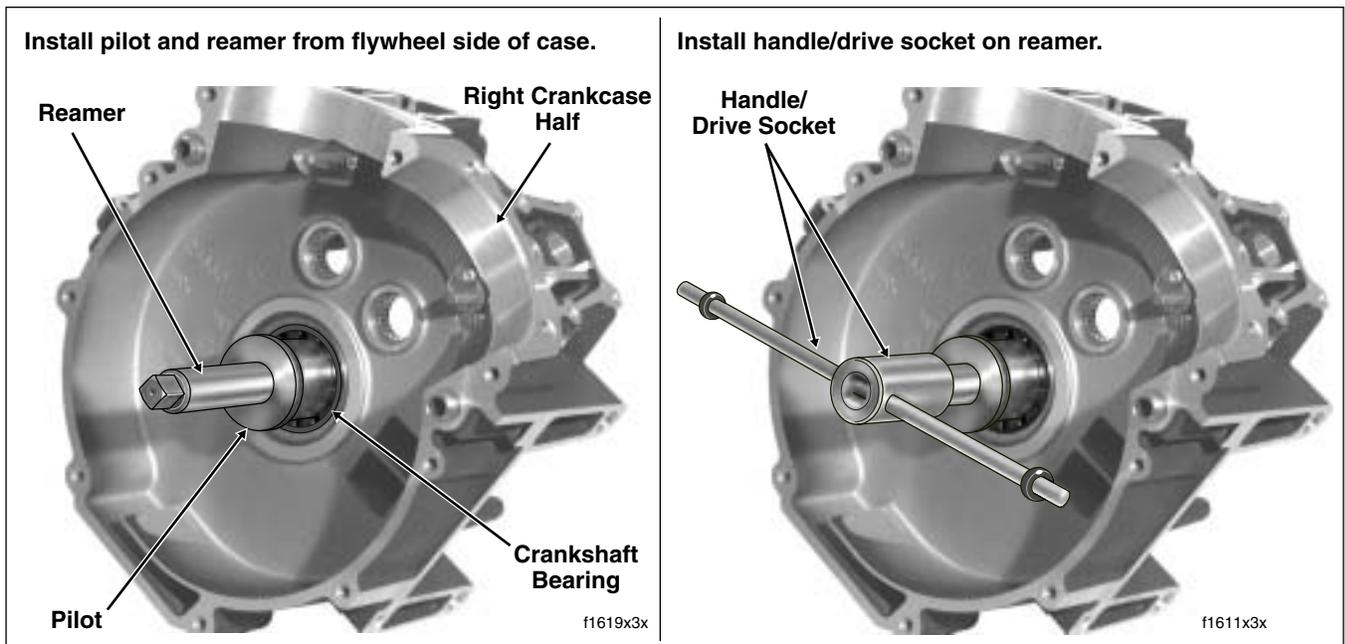

Figure 3-104. Ream Crankshaft Bushing
- a. From flywheel compartment side, carefully insert tapered end of reamer pilot into crankshaft bearing until it stops. See left frame of Figure 3-104.
- c. Install handle/driver socket on reamer lug. See right frame of Figure 3-104.